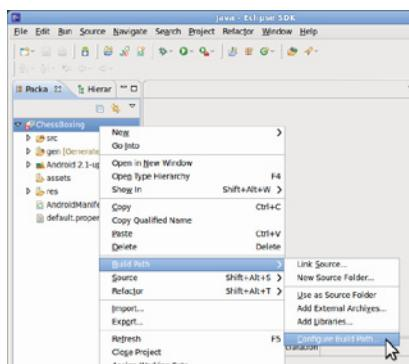
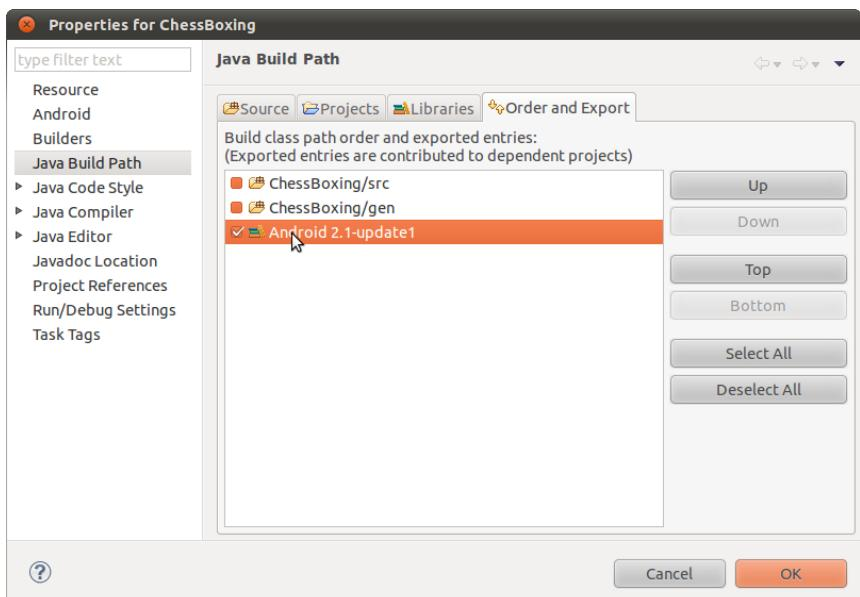

Figure 6-14. Configuring the Build Path for the Android version you're using to compile the project
Figure 6-15. Choosing the Android version you prefer
6. Under Min SDK Version, pick the same level (7) that you picked for the build target.
7. Right-click the project (as shown in Figure 6-14), and choose Build → Configure Build Path. Go to the tab labeled "Order and Export" and select the Android library (for example, "Android 2.1-update1," as shown in Figure 6-15). Click OK.